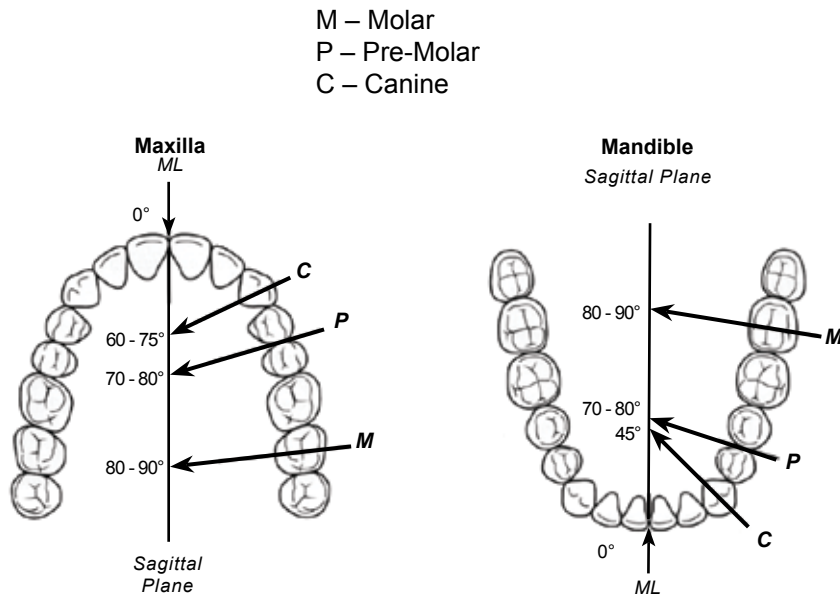

Figure 17. Horizontal Angulation
- The horizontal angulation of the cone should also be maintained to achieve perpendicularity with respect to the teeth as shown by Figure 17 below.
2. Introduce the receptor into the patient's mouth according to the chosen technique as shown by Figures 17 and 18 (bisecting or parallel - Page 27, 28).